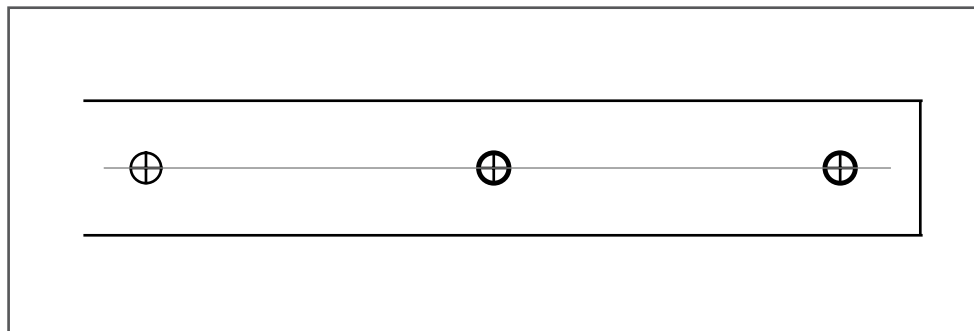

Figure 2
3. Hold the track up to where the pencil line is visible through the holes in the track (Figure 2).
4. Mark an intersecting line in the center of each track hole (Figure 2).